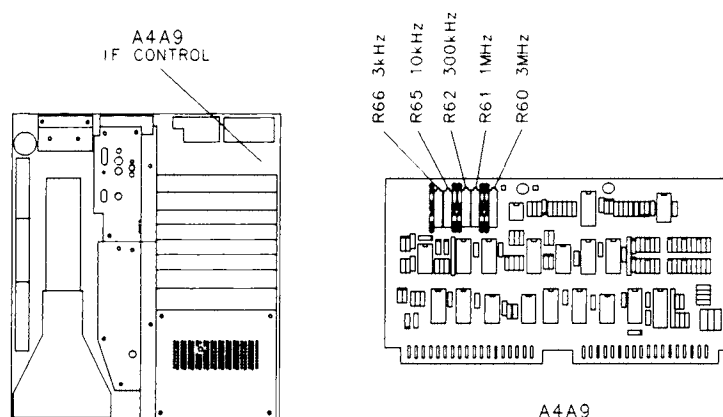

Figure 4-7. Location of Bandwidth Adjustments
8. Adjust A4A9R60 3 MHz for MKR **(Δ)** indication of 1.5 MHz while maintaining the marker at .500 X using the DATA knob. Refer to Figure 4-7 for the adjustment location.
14. Adjust A4A9R61 1 MHz for MKR Δ indication of 500 kHz while maintaining the marker at 0.500 X using the DATA knob. Refer to Figure 4-7 for the adjustment location.
20. Adjust A4A9R62 300 kHz for MKR Δ indication of 150 kHz while maintaining marker at .500 X using the data knob. Refer to Figure 4-7 for location of adjustment.
26. Adjust A4A9R65 10 kHz for MKR **Δ** indication of 5.00 kHz while maintaining the marker at .500 X using the DATA knob. Refer to Figure 4-7 for the adjustment location.
32. Adjust A4A9R66 3 kHz for MKR **Δ** indication of 1.5 kHz while maintaining the marker at .500 X using the DATA knob. Refer to Figure 4-7 for the adjustment location.